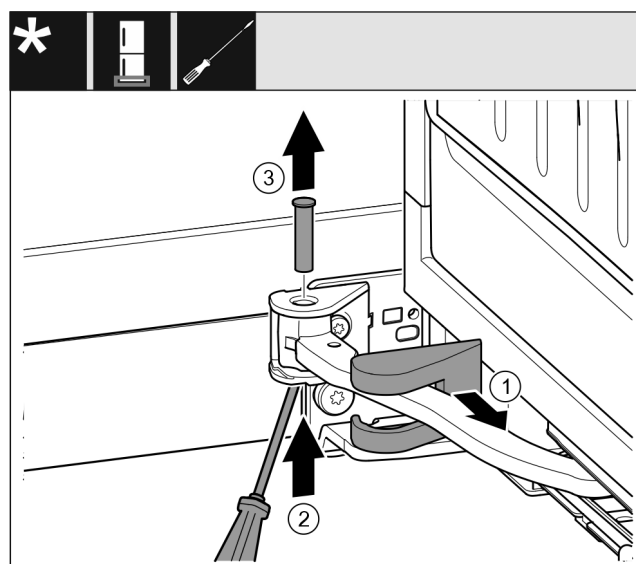

Fig. 17
- Pull off the swap bearing block cover Fig. 17 (1) and slide it along the joint.
- Use the screwdriver to lift the pin Fig. 17 (2) from the bottom.
- Pull the pin Fig. 17 (3) out from the top.